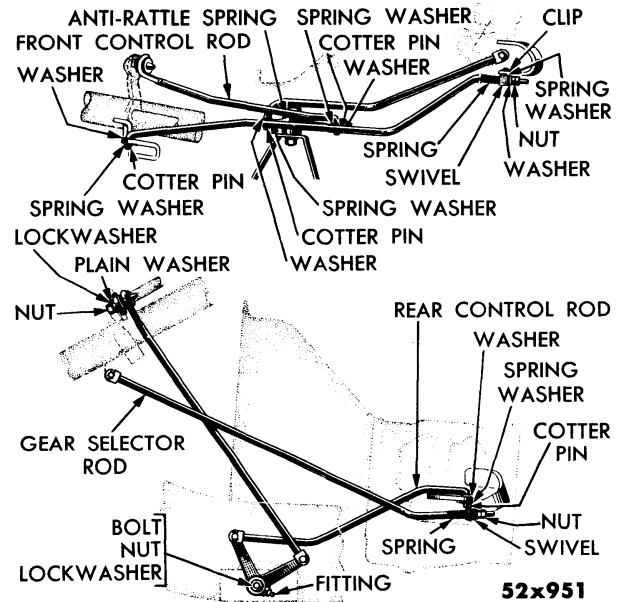

Fig. 13—Gearshift Control Rods
8. GEARSHIFT CONTROL ADJUSTMENT (FIGS. 13 AND 14)